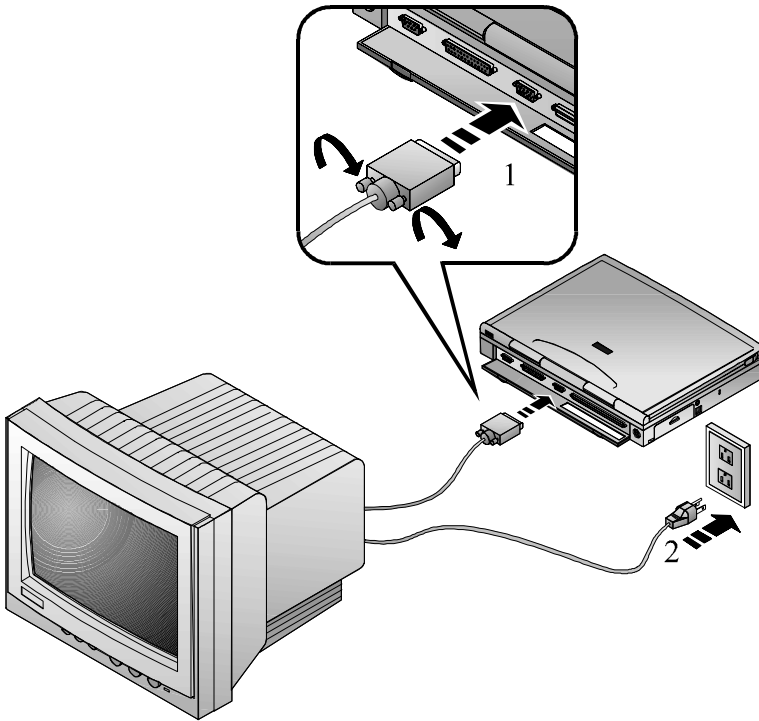

Figure 4-1: Connecting an External Monitor
1. Connect the monitor signal cable to the notebook's VGA port located on the rear of the notebook. Tighten the thumb screws (Figure 4-1, step 1).
2. Connecting the monitor's power cord to a the wall outlet after ensuring the monitor is turned off. (Figure 4-1, step 2).